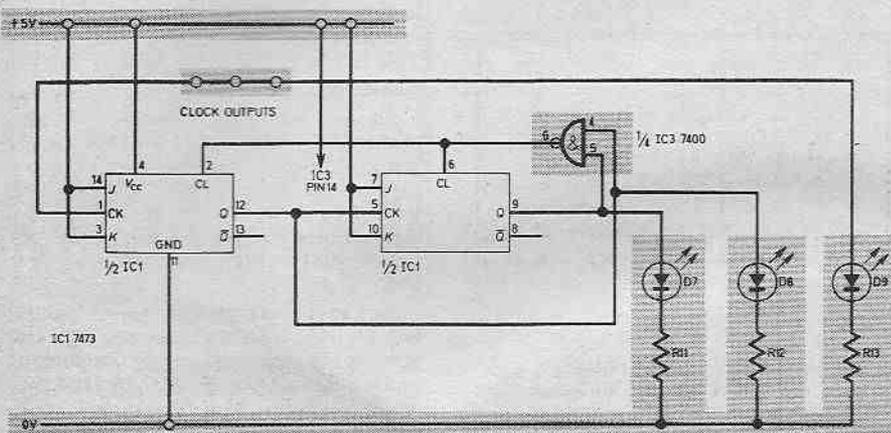

Fig. 4.5a. (above). A six step counter (÷3). Similar to the circuit of Fig.4.3a, but the NAND gate (in-built IC3) is used to clear the flip-flops.
We can use our chain to divide frequencies by two or by four—how can we use it to divide by three? How this may be done is shown in Fig. 4.5a. When the outputs (read left to right) reach binary 6 (110) the inputs to the NAND gate are both high. Its output goes low, and this clears the flip-flops to zero. Thus Q_B produces one pulse for every three pulses of the clock. Used as a counter, this circuit counts up to six, then returns